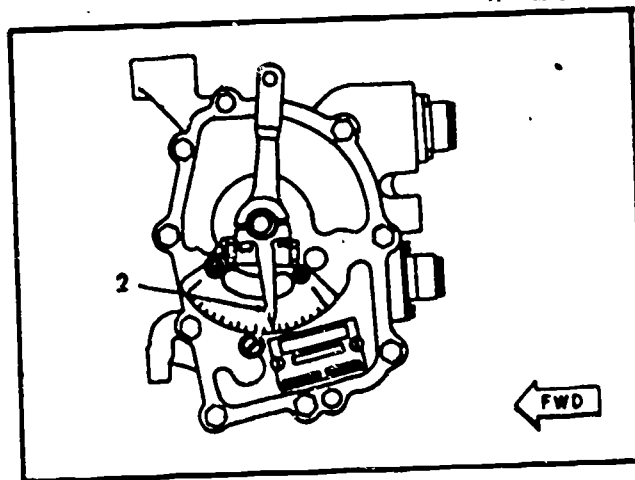

Figure 9. Engine Coordinator.
1. Move the condition lever to the RUN position and move the throttle lever to the FLIGHT IDLE position. Place a rig pin, NAS 1104 bolt, in the clevis lever, figure 1 (1). The coordinator pointer, figure 9 (2), should read 34 degrees.